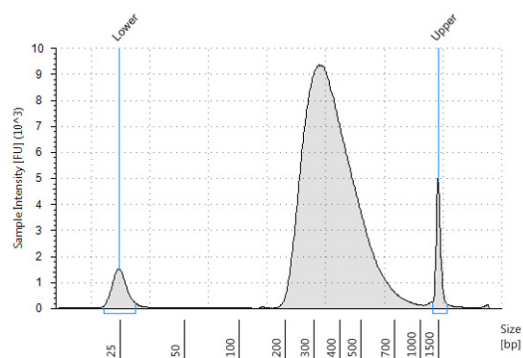
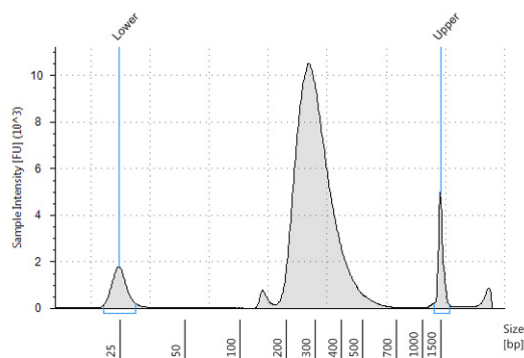
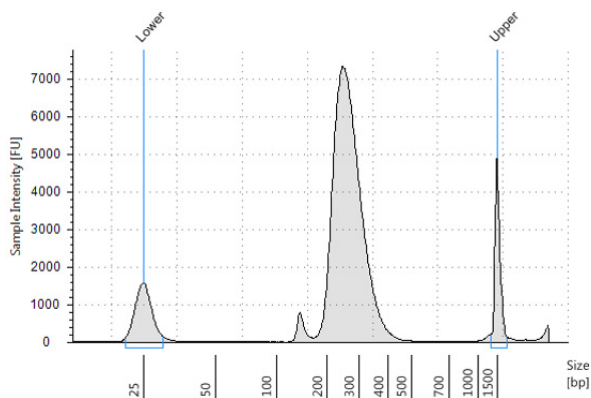

Figure 5 Pre-capture library prepared from a high-quality gDNA sample analyzed using a D1000 ScreenTape assay.
Figure 6 Pre-capture library prepared from a typical FFPE gDNA sample analyzed using a D1000 ScreenTape assay.
Figure 7 Pre-capture library prepared from a low-quality FFPE gDNA sample analyzed using a D1000 ScreenTape assay.
- 13 Verify that the electropherogram shows the peak of DNA fragment size positioned between 300 to 400 bp for high-quality DNA and approximately 200 to 400 bp for FFPE DNA. Sample electropherograms are shown in Figure 5 (library prepared from high-quality DNA), Figure 6 (library prepared from medium-quality FFPE DNA), and Figure 7 (library prepared from low-quality FFPE DNA).
Using manual preparation of the analytical sample plate, you can analyze the DNA samples on Agilent 2100 BioAnalyzer, Agilent 5200 Fragment Analyzer, or Agilent 4200/4150 TapeStation. Electropherograms obtained using one of these other analysis platforms are expected to show fragment size profiles similar to those shown for the Agilent 4200 TapeStation (see **Figure 5** through **Figure 7**). **Table 34** includes links to assay instructions.